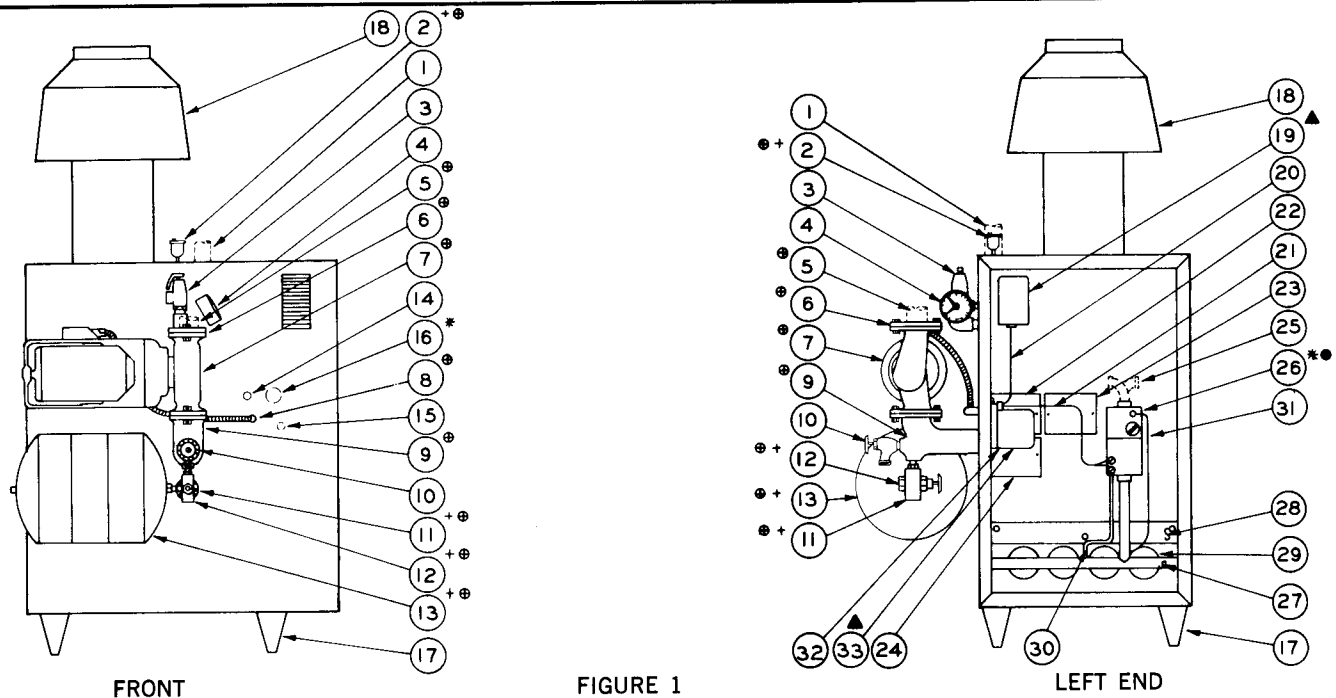

FIGURE 1
5. For Type P-CG and CGM boilers, connect the system return piping to the circulator counter flange (see Figure 1). The watertight seal between the circulator flange and circulator counter flange is maintained by a rubber "O" ring; where solder type fittings are used, be sure the "O" ring is not between the flanges while the solder connection is made.